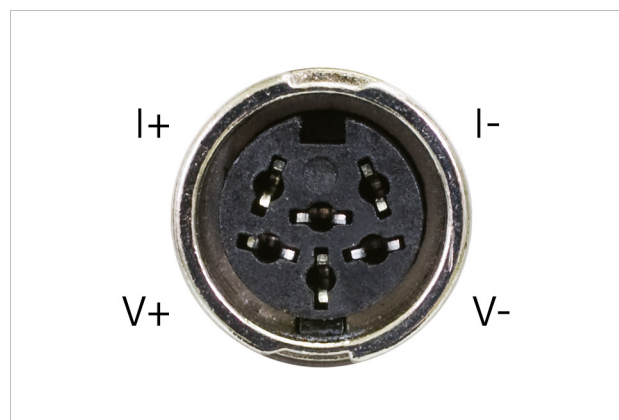
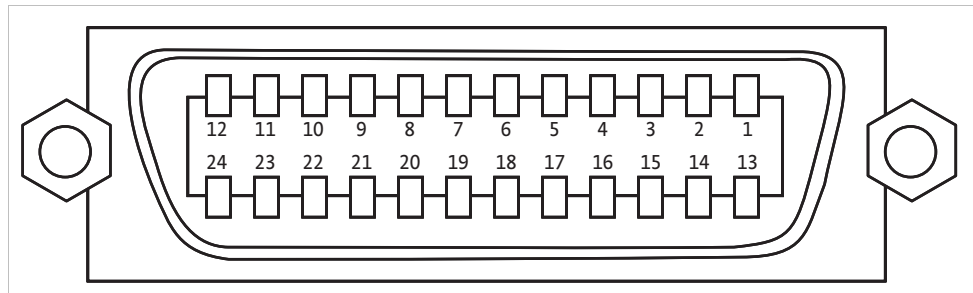

FIGURE 8-2 Sensor input A through D
FIGURE 8-6 IEEE-488 interface
1. Locate the line input assembly on the instrument rear panel. See Figure 8-2.
2. Turn the power switch Off (O).
9. Turn the power switch On (I).
The sensor input, heater output, terminal block, USB, Ethernet, and IEEE-488 connectors are defined in FIGURE 8-2 through FIGURE 8-6.
The total length of cable allowed in a system is 2 m for each device on the bus, or 20 m maximum. The Model 224 can drive a bus of up to 10 devices. A connector extender is required to use the IEEE-488 interface and relay terminal block at the same time. FIGURE 8-6 shows the IEEE-488 interface connector pin location and signal names as viewed from the Model 224 rear panel.